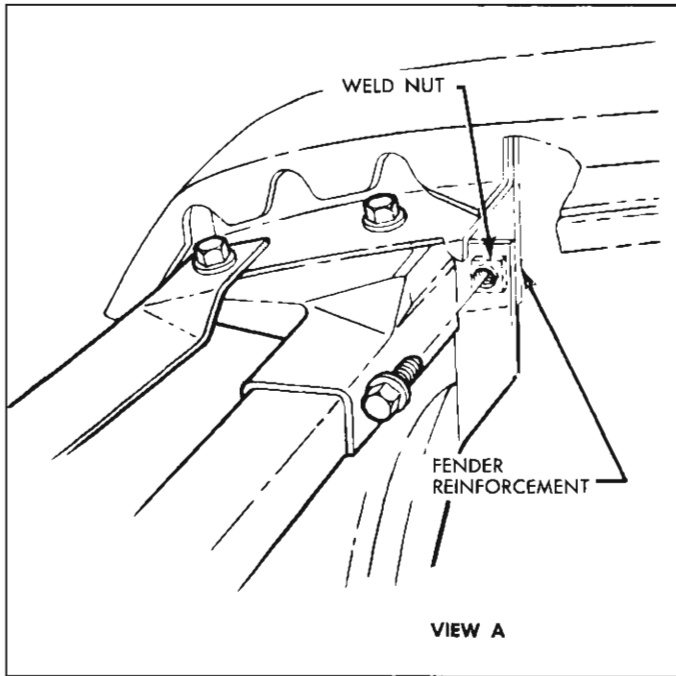

Fig. 105—Radiator Support Installation
6. Remove screw located immediately rearward of screw removed in Operation 5 and under fender flange. Figure 105.